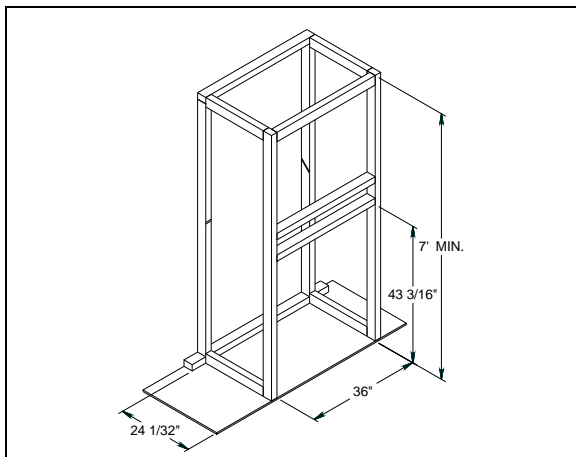

Figure 6
- C. Frame the fireplace with vertical studs at the sides of the fireplace running from floor to ceiling (see figure 6). Position the studs back from the front edge of the fireplace, a space the thickness of the facing material so that the facing can be installed flush with the fireplace facing (within limitations of figure 11). Frame headers between the vertical studs only as follows:
Make a 3 1/4" (83 mm) hole in the outside wall of the house at the chosen location. From outside, place the outside air register in the hole (open side down) and fasten the register to the wall, with screws as shown (see figure 6). Place the insulated pipe over the register tube and over the fireplace's outside air connector (see figure 6 & 7). At each end, carefully pull back the insulation and plastic cover, exposing the flexible pipe. Attach the flexible pipe using pipe clamps. For a better seal, you may also use aluminum tape. Wrap the tape around the joint between the flexible pipe and the air inlets. Carefully push the insulation and plastic cover back over the pipe. Fix the plastic in place using aluminum tape.